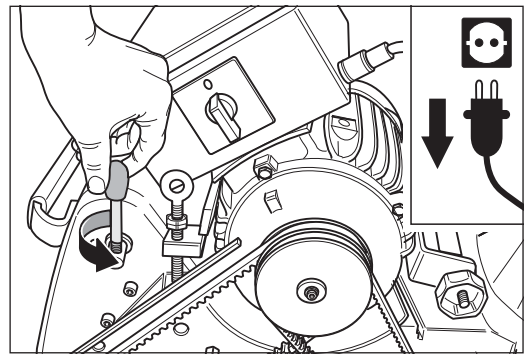

Fig. 35 Unscrew the operating lever of the drive unit. **Similar to figure.**
- 7 Remove the operating lever of the drive unit by unscrewing (Fig. 35).